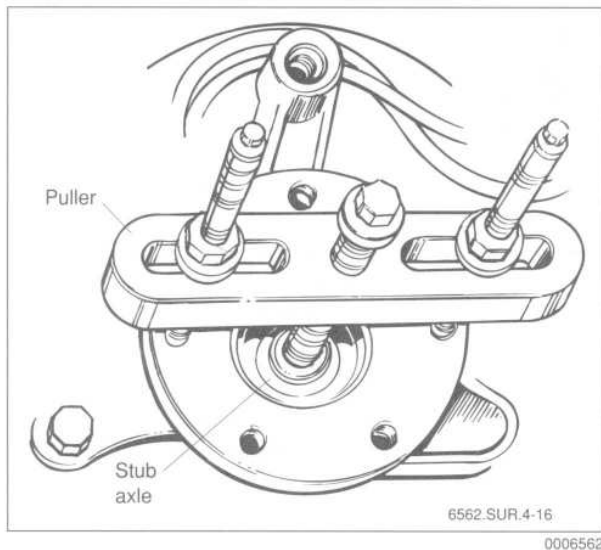

Fig. 9. Drive flange being removed from stub axle using puller.
8. Remove the drive flange collar nut and remove the flange using a puller if necessary. See Fig. 9.